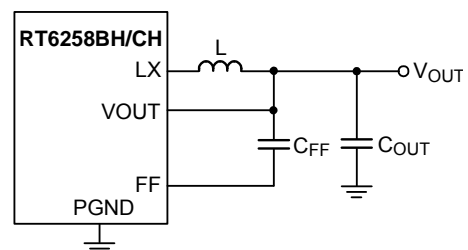
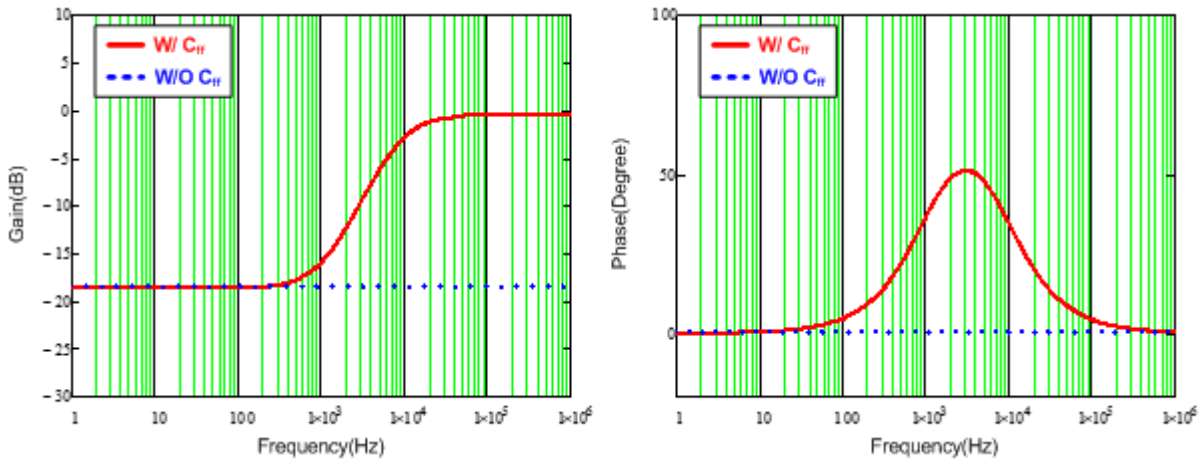

Figure 4. Feedback Loop with Feedforward Capacitor
Figure 5. Bode Plot with Different Feedback Loop Conditions
For saving time to design compensator and reducing the layout area through external components, the components of compensator are integrated in IC. However, this integrated compensator might not suit to every load transient spec. Hence, for the RT6258BH/CH to be more adaptable, the feedforward capacitor CFF is used in the feedback loop to improve transient response, as shown in Figure 4. Figure 5 shows the comparison result of bode plot with different feedback loop conditions. Referring to Figure 5, through connecting a CFF in feedback network, the gain and phase are raised in mid-frequency that not only can extend the bandwidth, but boost the phase margin as well. Moreover, there is also a high frequency pole to eliminate high frequency noise. Consequently, those features of feedforward feedback network allow the RT6258BH/CH have faster response to handle different load transient.
Observing Figure 5, the maximum phase boost occurs between zero and pole frequencies that is defined as maximum phase boost frequency, as expressed in equation (4). Hence, in order to achieve the maximum phase boost by adding  $C_{FF}$  in the RT6258BH/CH, the system's original bandwidth has to be located at maximum phase boost frequency.